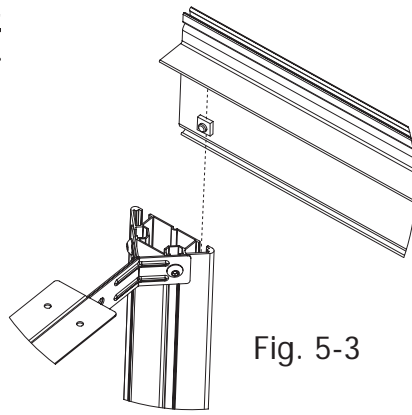

Fig. 5-3
5-3: Attach the other end of the Track Support to the Middle Leg Assembly by sliding the two (2) Square Nuts into the "T" slot in the Leg as shown in Fig. 5-3. (Do not tighten the 6mm X 10mm SBHC Screws yet. Leaving the screws loose will simplify attachment of the Track Support in Step 6-3, and Track attachment in Step 8.)